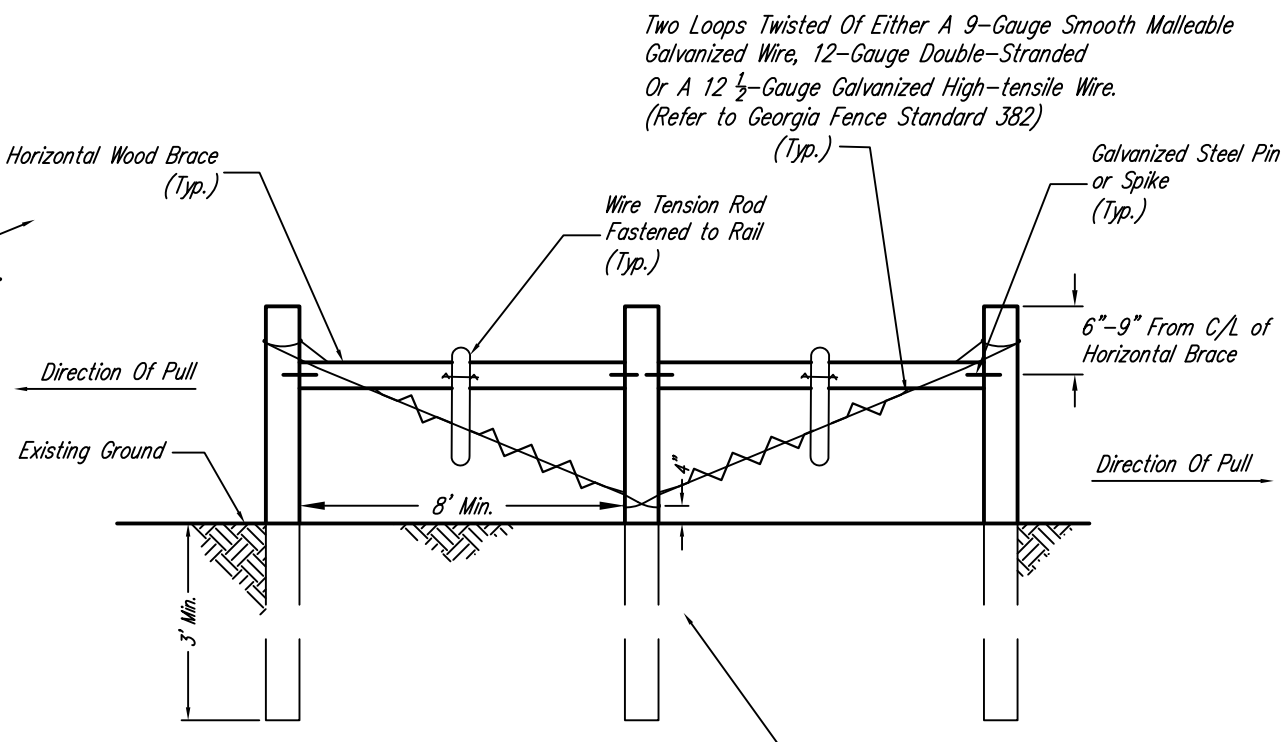

FIG 2.3 DOUBLE H-BRACE PULL ASSEMBLY DETAIL
- Use a double H-brace pull assembly with tension members at intervals not to exceed 1320-feet in straight line fence sections. Use braces at shorter distances in uneven terrain. (Typically, grade changes of > 15%). Terminate and tie off wire at the center anchor post of the pull assembly. (See **Figure 2.3**)